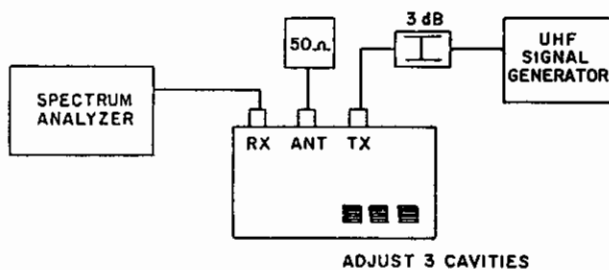

Fig. 6-8
- Adjust the tuning slugs of the three cavities associated with the transmitter port for a dip of the receiver noise level as observed on the analyzer. See Figure 6-8.